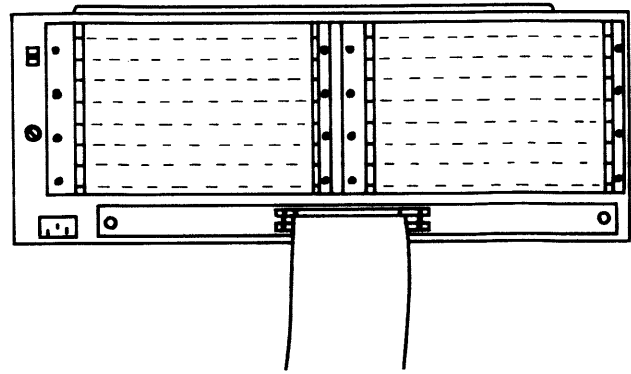

Figure 5 9888A Bus Expander Slots
Step 1: Refer to the diagram below (Figure 5), where there is room to make 16 entries, each representing one slot location.